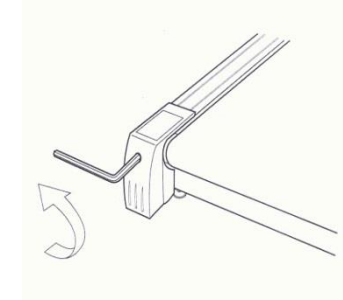

Figure 2
2. **Running belt has shifted to the right side. (Figure 2 - Adjusting the belt to the left side)**